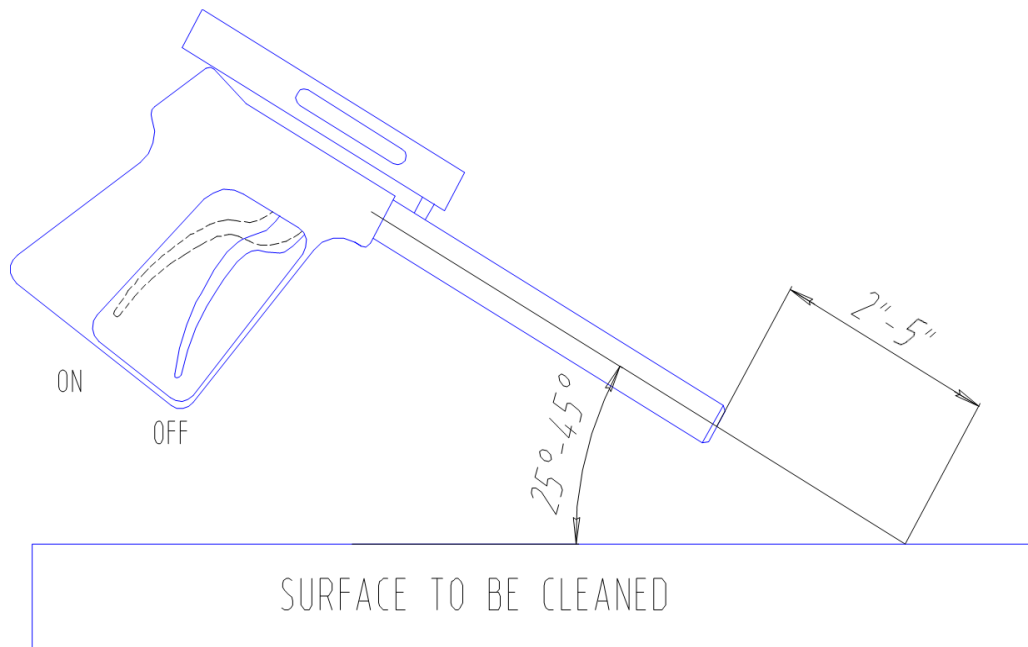

Figure 5.3 – Gun Position for Best Results
- 4) The gun trigger should be in open or “ON” position (See Figure 5.3) when **throttling up** the engine to engage the pressure pump. This will prevent the pressure pump from being in a loaded condition which will cause damage to the belts while they are engaging the pressure pump. Open the gun
- 7) Activate the cleaning cavitation stream by squeezing the trigger to the open or "ON" position (See Figure 5.3). Release trigger to stop the water flow and direct to dump or bypass. **Open** the ball valve on the DoubleDome to start the nozzles rotating, close the ball valve to stop the nozzle rotation. Engine must be at full throttle for nozzles to function.
- 8) If the diver operating the unit must be replaced or the cleaning operation must be interrupted or terminated, disengage the pressure pump by pushing the throttle lever in to the idle position and turning the ignition key to the "OFF" position. (See Figure 5.1) **Then release the water pressure in the hose(s) by squeezing the gun trigger to the open or "ON" position (See Figure 5.3) while under water.** Revert back to step 3 of the operating instructions when the diver or replacement is ready to continue cleaning.
When the diver is ready to commence cleaning operations, ensure that the gun trigger is in the open or “ON” position (See Figure 5.3), the gun is submerged in the water and the feed pump is operating prior to throttling up the engine. Ensure that the power unit operator and other people working in the vicinity of the power unit wear appropriate hearing protection when the engine is running.
3. The most efficient operating technique is to hold the nozzle 2-5 inches (5-12 cm) away from the surface to be cleaned and at a 25 to 45 degree angle to the surface being cleaned (See Figure 5.3). The diver needs to observe the shape of the cavitating jet cone. At greater depths, the higher ambient pressure will cause the jet cone to be shorter. The widest zone of the cone is the most efficient part of the cavitating jet. Placing the nozzle closer than 2 inches (5 cm) from the surface being cleaned will not allow for efficient cavitation performance and will degrade the cleaning capability of the CaviBlaster® system.
5. Squeeze the gun trigger to the open or “ON” position (See Figure 5.3) to release the water pressure remaining in the hose(s) while the gun is submerged.